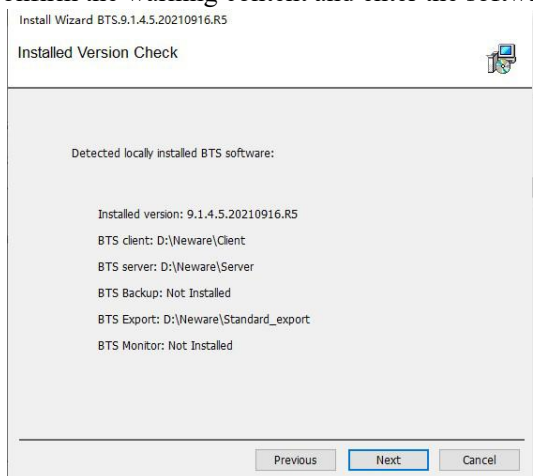

Figure 3-9 Version check
2. Select an installation language and click **Next**. The Installed Version Check interface will displayed. Information about the installed software version and installation directory is displayed on the interface. See Figure 3-9: